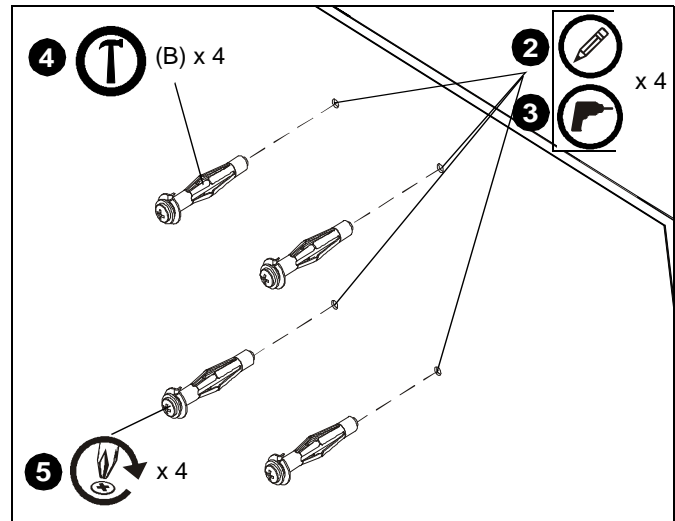
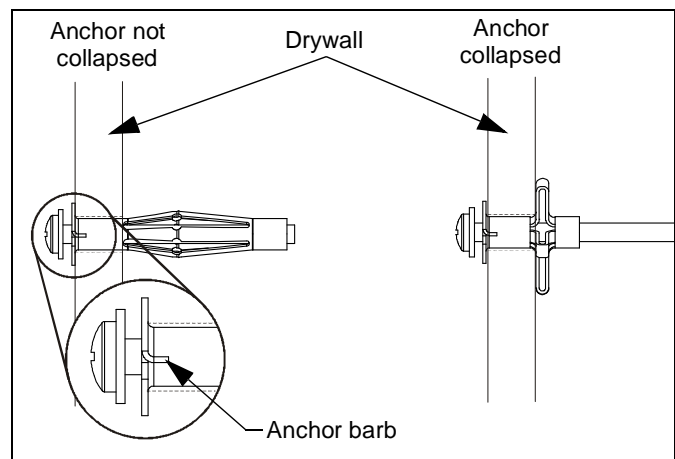

Figure 2
Figure 3
2. Level FTR assembly (A) at desired height and, using it as a template, mark the location of the four anchor holes (one in each corner slot).
3. Drill 3/8" anchor holes. Ensure holes are straight and completely through drywall. (See Figure 2)
4. Gently tap anchor (B) into anchor hole. Anchor barbs should be fully engaged in drywall (See Figure 3).
5. Using Phillips screwdriver, tighten anchor screw until anchor has fully collapsed against back side of drywall. (See Figure 2) and (See Figure 3)
7. Remove and retain anchor screws from anchors (B).
**NOTE:** Anchors (B) may come with small washers which may be left on the screw or discarded. These small washers do NOT replace washers (C).
8. Insert anchor screws through washers (C), FTR (A) and install into collapsed anchors (B). Tighten until secure. (See Figure )